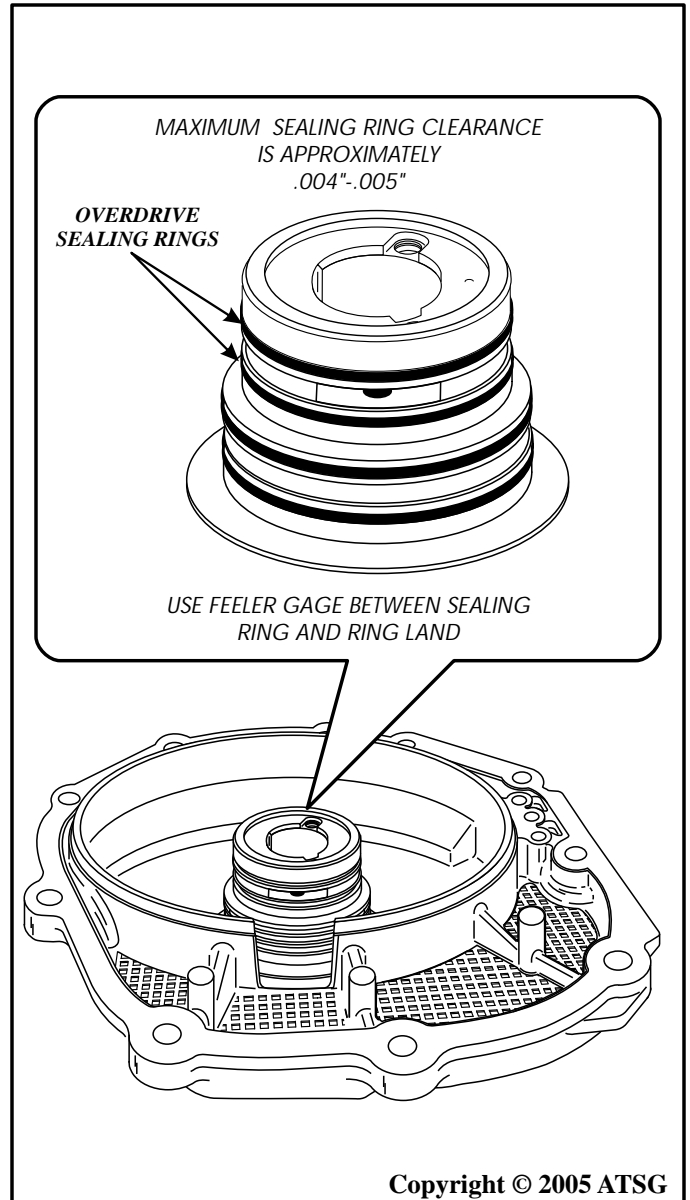

Figure 73
**Before** proceeding with the rear cover component rebuild section, it is imperative that the journal and seal ring area of the rear cover be inspected **very closely** for any wear and/or damage, as shown in Figure 73. Ensure that sealing ring groove clearance is within specification using feeler gage.
2. Inspect the end cover journal and sealing ring area for any wear and/or damage and check seal ring groove clearance with a feeler gage, as described in Figure 73.